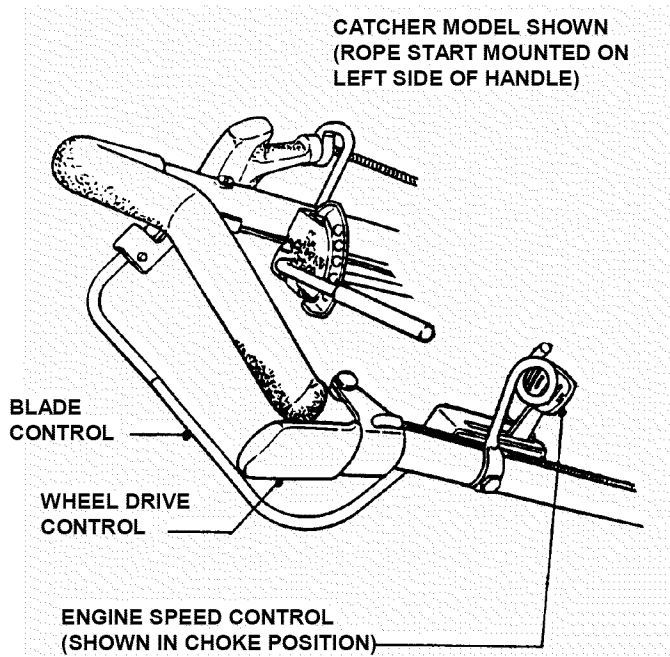

FIGURE 2.3
1. Move engine speed control to the "choke" position. See Figure 2.3.
4. After engine starts, move engine speed control away from the choke position to the "Fast" (Rabbit) position. See Figure 2.3.